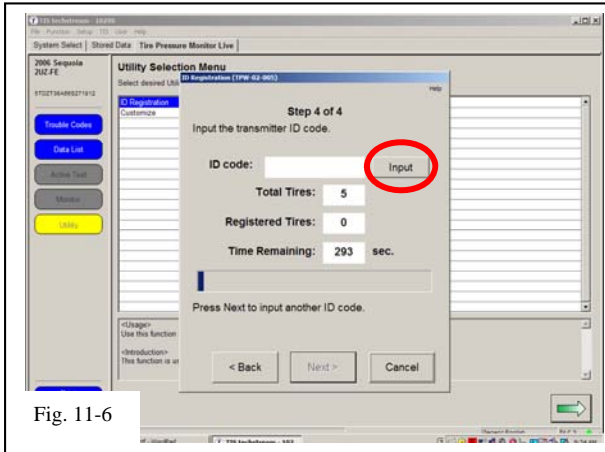

Fig. 11-6
- (i) Select “Next” for Steps 1 through 3. Select “Input” in Step 4 to begin TPMS ID registration (Fig. 11-6).